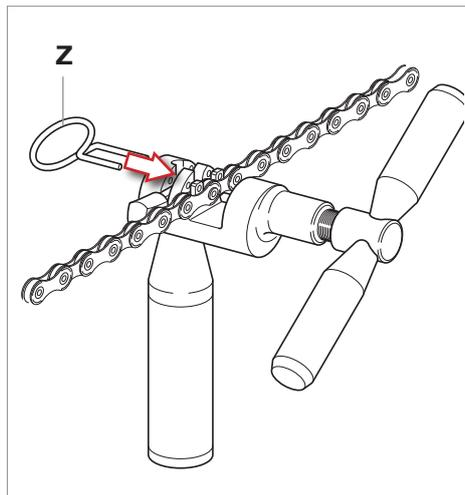

Fig.17
- Insert the link to close into the provided seats (**Fig. 17**).
- Lock the link by means of the special locking device (Z - **Fig. 17**).